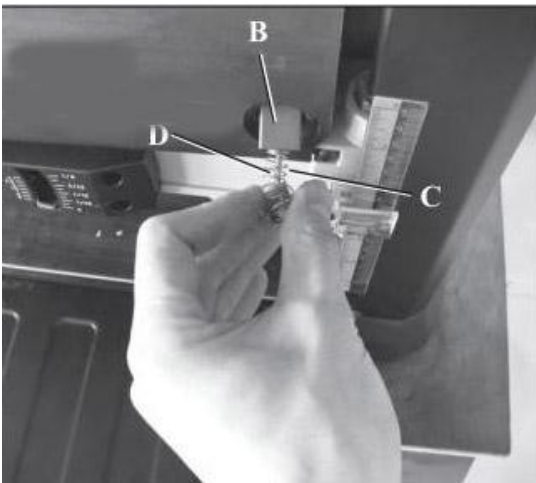

FIG 16
2. Once the brush has been removed, inspect the carbon (B), the spring (C), and the wire (D). SEE FIG 16.